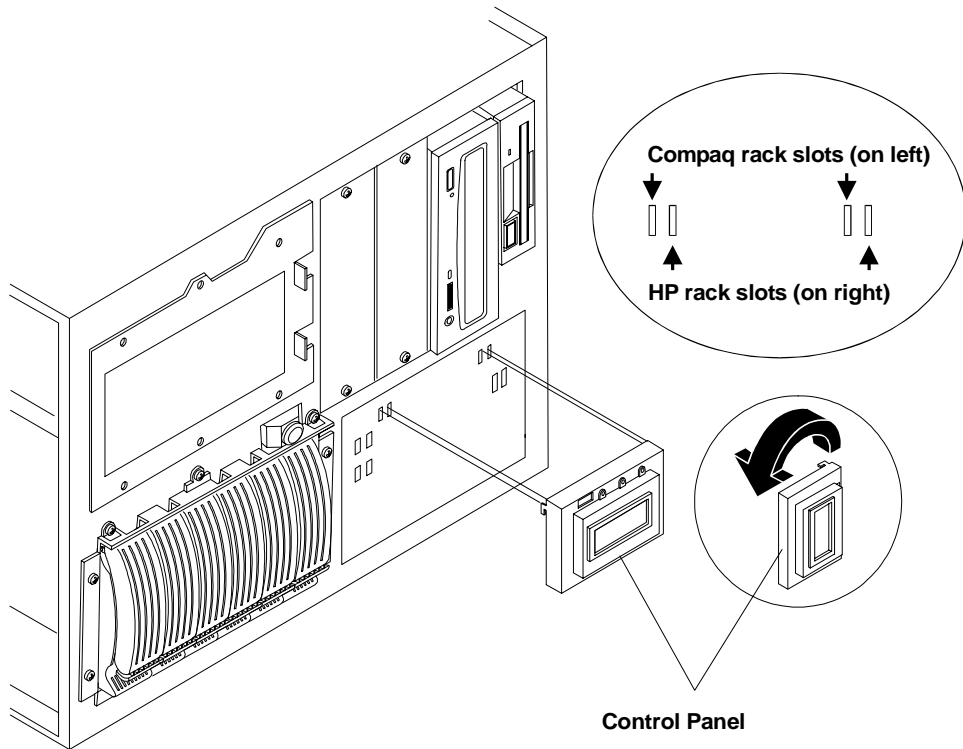

Figure 3-3. Reorient Control Panel to NetServer Chassis
4. Rotate the control panel until it is aligned with the rack position of the NetServer, as shown in Figure 3-3. Be careful of the ribbon cable that connects the control panel to the NetServer. Be careful not to damage it.
There are two possible positions for the reinstallation of the control panel, depending upon the rack in which the NetServer will reside. Refer to Figure 3-3.
5. Refer to Figure 3-3. Mount the control panel in the set of slots appropriate for your rack: